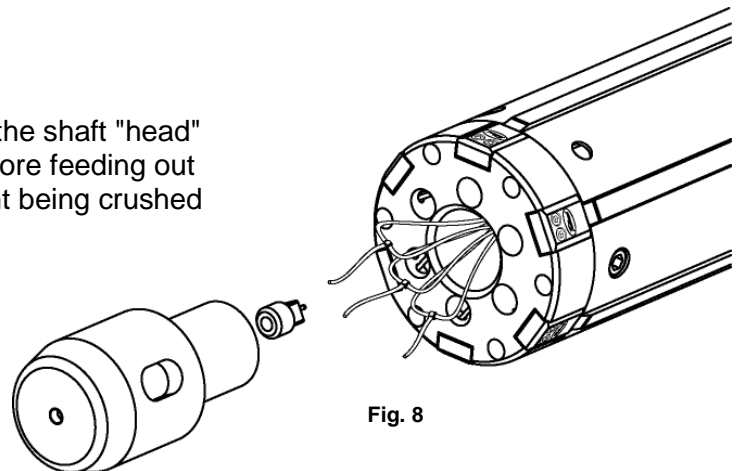

Fig. 8
**Fig . 8 –** Hoses originating from end clamps in the shaft "head" must feed back into the shaft body before feeding out through the end of the shaft (to prevent being crushed by the journal).